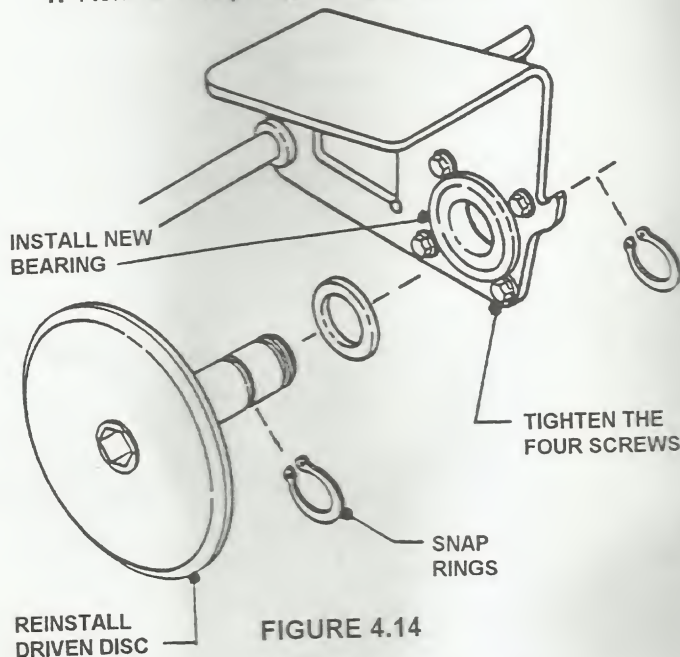

FIGURE 4.14
1. Remove snap ring. See Figure 4.14.